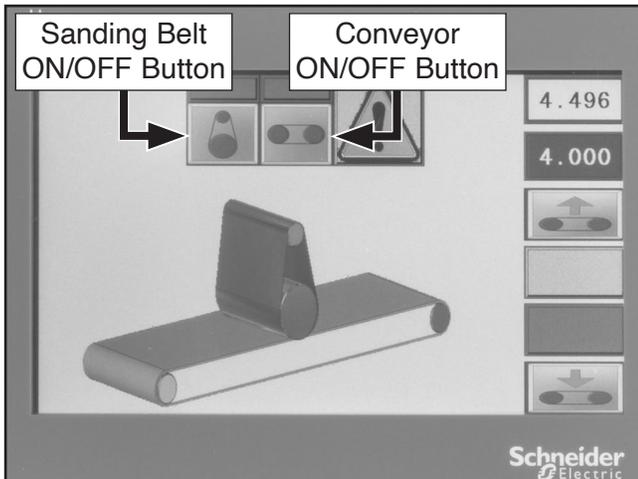

Figure 31. Location of sanding belt and conveyor ON/OFF button on main menu screen.
2. Connect machine to power and wait for touch screen to display main menu screen (see **Figure 31**).
7. Press sanding belt ON/OFF button (see **Figure 31**). Verify main motor starts up and runs smoothly without any unusual problems or noises.
8. Press conveyor belt ON/OFF button (see **Figure 31**). Verify feed motor starts up and runs smoothly without any unusual problems or noises.